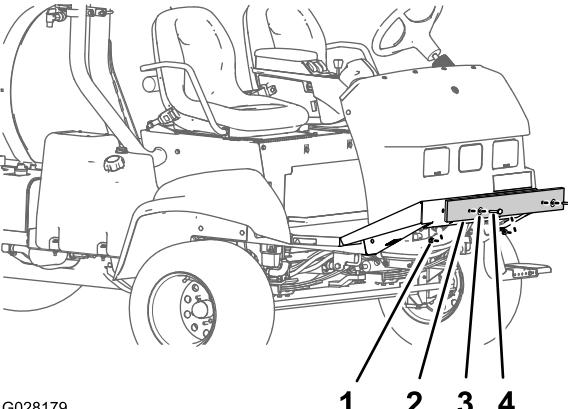

Figure 4
1. Remove the bolts, washers, and nuts securing the shipping bumper to the front chassis plate (Figure 4).
2. Remove the shipping bumper from the machine (Figure 4).